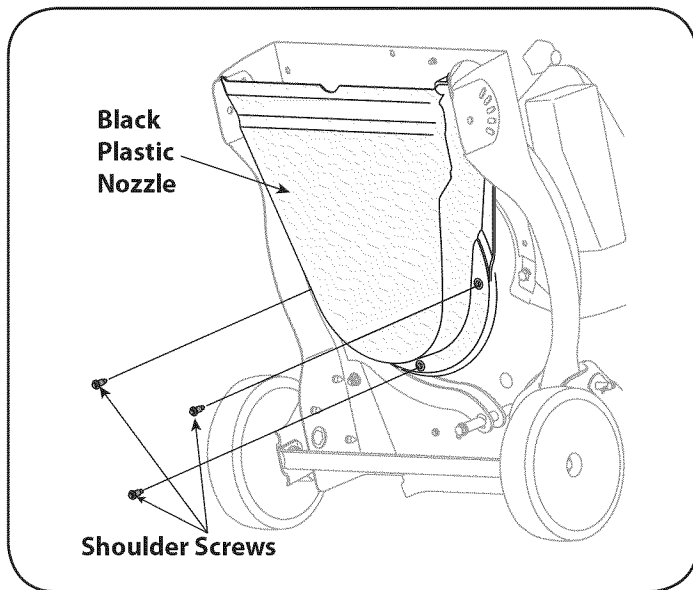

Figure 29
- Carefully tilt and support the unit up to provide access underneath to the nozzle mounting hardware and impeller. Remove the three shoulder bolts securing the black plastic lower flail housing to the lower housing. Refer to Figure 29.